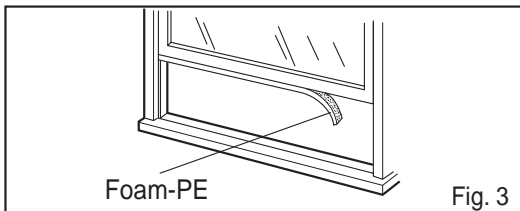

Fig. 3
3. Cut the window sash seal to the proper length. Peel off the backing and attach the Foam-PE to the underside of the window sash. (Fig.3)